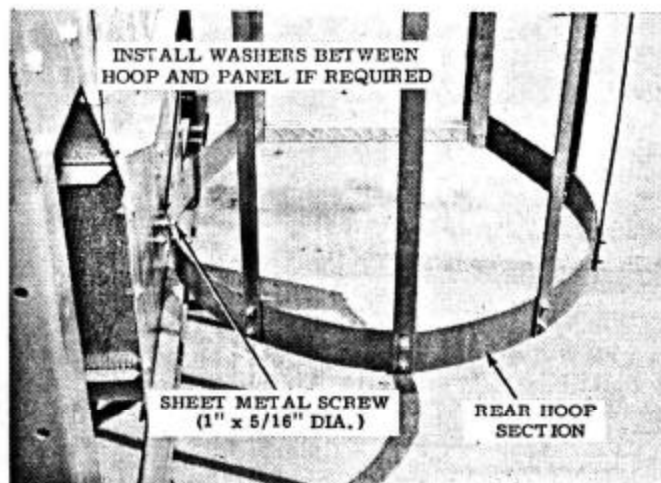

FIG. 4 - CONNECTING REAR HOOPS TO DRYER
4. After all bars are installed, connect each safety cage loop to the dryer by drilling a small hole in the rear panel and installing a 1" x 5/16" Dia. sheet metal screw. See Fig. 4.